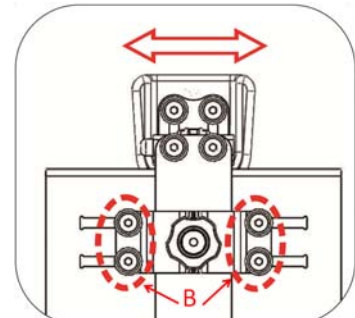

Figure 5-139
5.3.12.3 Use the #4 Allen Key Wrench to loosen the screws B. The pommel can be moved leftwards or rightwards. Re-tighten all screws. (Figure 5-139)